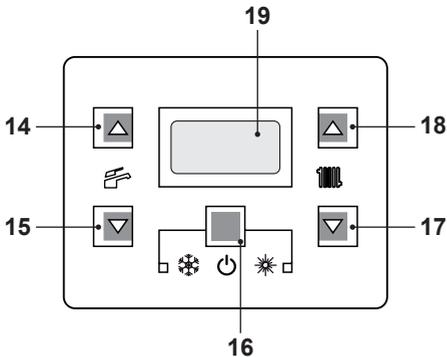
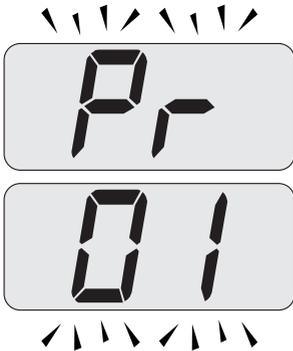
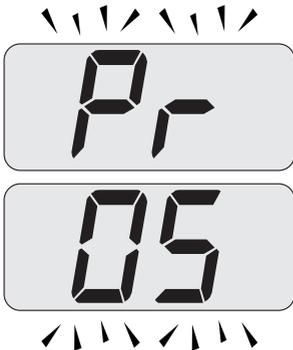

Fig. 9.3
Fig. 9.4
Fig. 9.5
- Enter in "programming mode" by sequentially pressing keys 16 - 17 - 18 (Fig. 9.3) for 10 seconds until the letters **Pr** that alternate with code **01** are displayed on the LCD display, indicating that "parameter 01" (Fig. 9.4) has been activated.
- Scroll the various parameters using keys 17 or 18 until the letters **Pr** that alternate with code **05** are displayed on the LCD display, indicating that "parameter 05" (Fig. 9.5) has been activated.
- Press keys 16 and 18 (Fig. 9.3) at the same time until the value of parameter 05 (00=G20) is displayed on the LCD display (Fig. 9.6).
- By pressing key 18 three times, it is possible to change the value of parameter 05 from **00**=G20 to **05**=G31, which is ok for LPG gas.
- By pressing key 16 (Fig. 9.3) confirmation of the inserted value is obtained.
- Press keys 16 and 17 (Fig. 9.3) at the same time to exit without changing the value (return to the parameters list Fig. 9.5).
- Press sequentially keys, 16 - 17 and then 18 (Fig. 9.3) and hold in for 10 seconds to exit the "programming mode".